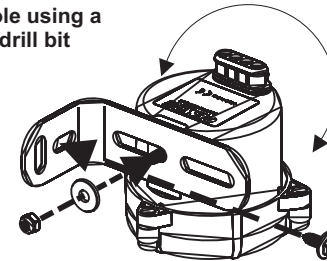

Fig.1
- The L-bracket can be attached on the long or short side (Fig.1).